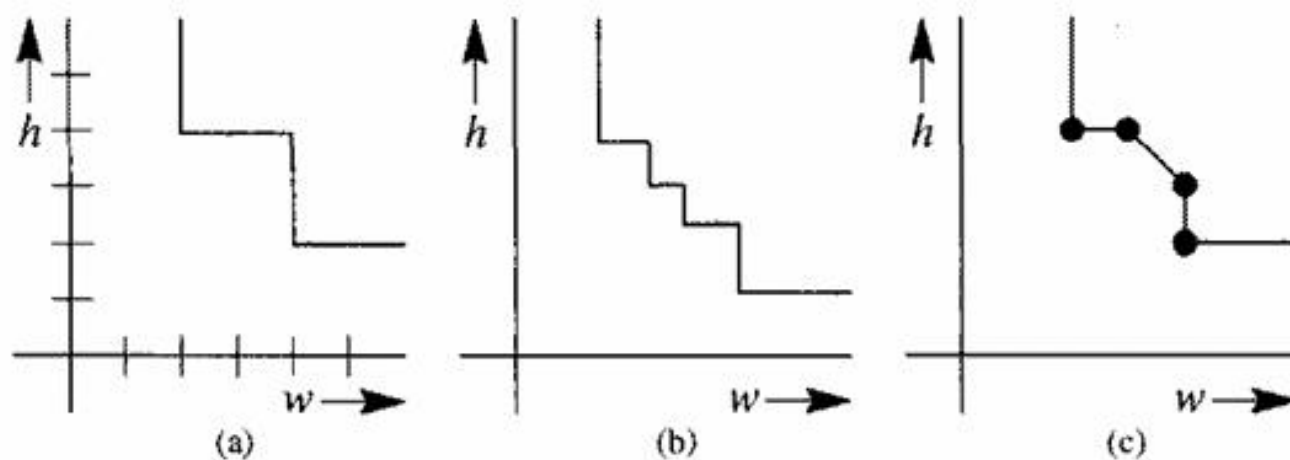

Figure 8.9 The shape function of an inset cell (a); the shape function of a cell with a discrete set of (h, w) pairs (b); a piecewise linear shape function (c).
- **Figure 8.9(a–c)**: Discrete and piecewise linear shape functions.